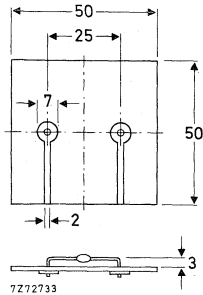

Fig. 4 Mounting method 3.
3. Thermal resistance from junction to ambient when mounted on a 1,5 mm thick epoxy-glass printed-circuit board; Cu-thickness $\geq 40 \mu\text{m}$; Fig. 4